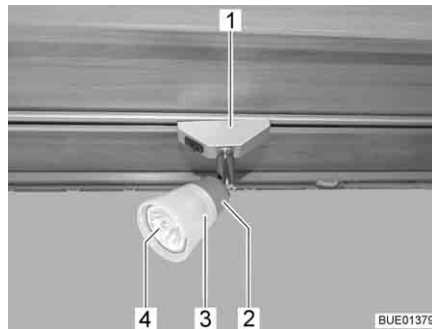

Fig. 273 Halogen spotlight (movable)
- Turn the halogen spotlight (Fig. 273,1) by 90° and remove from rail.
- Turn the lamp shade (Fig. 273,3) in an anticlockwise direction.
- Withdraw lamp shade complete with halogen bulb (Fig. 273,4) carefully from the holder (Fig. 273,2).